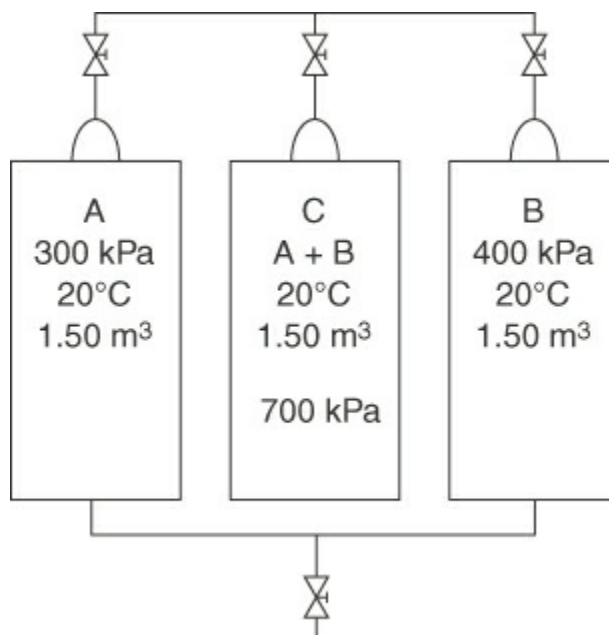

Figure 6.4 Illustration of the meaning of partial pressure of the components of an ideal gas mixture
Although you cannot easily measure the partial pressure of a gaseous component directly with commercial instruments, you can calculate the value from Equation (6.5) and/or Equation (6.6). To illustrate the significance of Equation (6.5) and the meaning of partial pressure, suppose that you carried out the following experiment with two nonreacting ideal gases. Examine Figure 6.4. Two tanks of 1.50 m^3 volume, one containing gas A at 300 kPa and the other gas B at 400 kPa (both gases being at the same temperature of 20°C), are connected to an empty third tank (C) of the same volume. All of the gas in tanks A and B is forced into tank C isothermally. Now you have a 1.50 m^3 tank of A + B at 700 kPa and 20°C for this mixture. According to Equation (6.5), you could say that gas A exerts a partial pressure of 300 kPa and gas B exerts a partial pressure